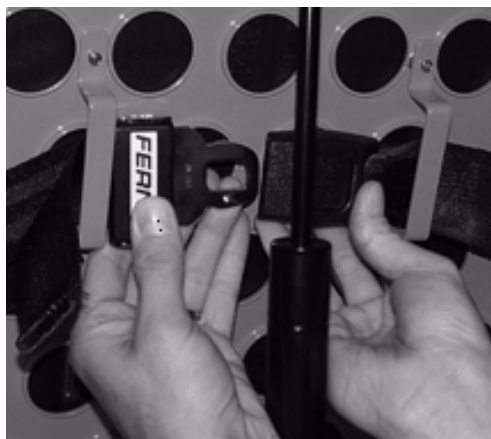

Figure 38 - Fastening the Pedi-Mate® Buckle
4. Wrap the black backrest straps around the backrest and insert the ends of the straps through the brackets. Securely fasten the buckle (see Figure 38).